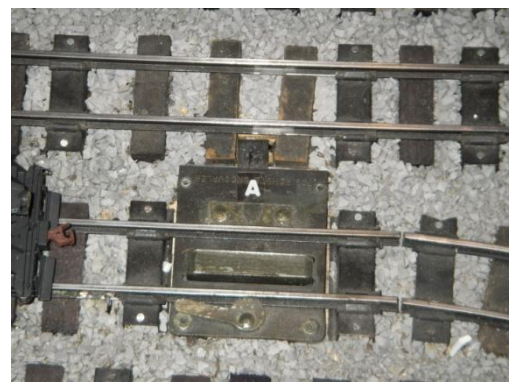

Figure 3
- Step 1: To install the new uncoupler on your layout, you will be required to cut a square hole for the modified American Flyer upside-down coil to fit into. Measure from the track centerline on your layout 1-1/4" and 2-3/8" and make a 1-1/8" square hole between these two marks. Please refer to **Figure 3** for a final view.